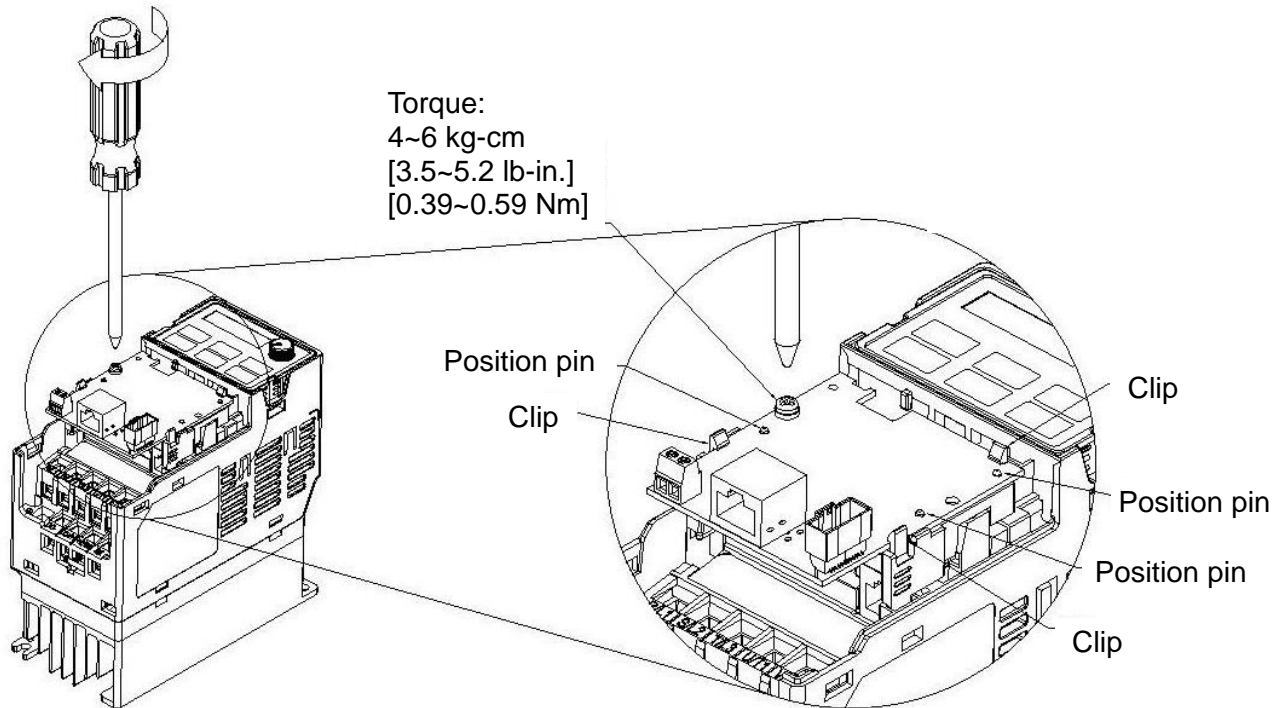

Fig. 8-3
5. Wiring after the option card fixed fitting is clipped with the holes (see  NOTE). Fasten the screw to fix the option card before wiring (shown in Fig. 8-3). Torque: 4~6 kg-cm [3.5~5.2 lb-in.] / [0.39~0.59 Nm]. While the wiring is finished, the front cover cannot put it back on directly but needs to assembly the option card reversely. Please refer to the subsequent steps to complete the installation.